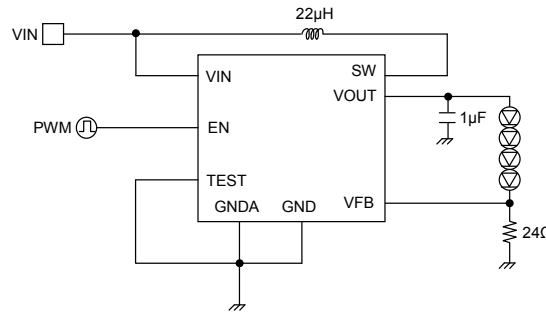

Fig.67 The brightness adjustment example of EN terminal by PWM (fPWM = 100Hz ~ 300Hz)
1) PWM brightness adjustment is made by giving PWM signal to EN as shown in Fig.67.